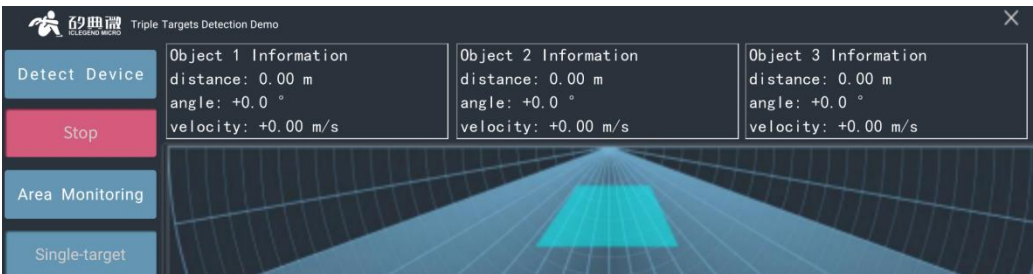
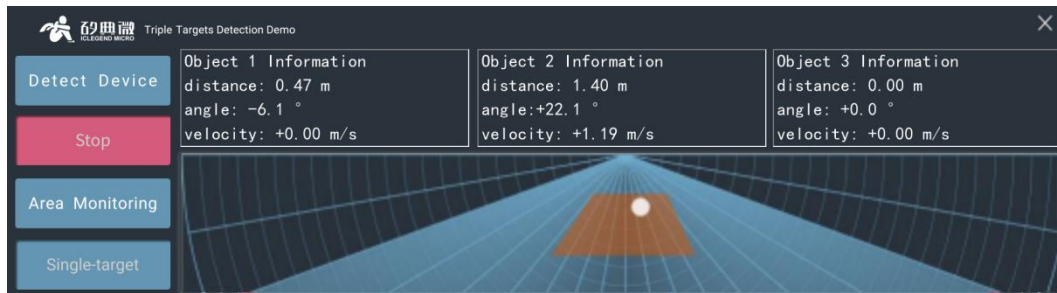

Figure 2.2.6 Defined Monitoring Area
Figure 2.2.7 Target Present in Monitoring Area
Step 3: Click the “Add Monitor Area” button on the “Area Monitoring” settings page to start setting up the monitoring area: On the interface, left-click within the fan-shaped area to set the vertices of the monitoring area, and right-click to finish setting the monitoring area. The host computer tool will connect the vertices in the order of mouse clicks to form a polygon displayed on the interface. The area enclosed by this polygon is the monitoring area. Figure 2.2.6 shows a quadrilateral monitoring area. When someone enters the monitoring area, the background color of the monitoring area changes to “Target Abs. Color”; after the person leaves the detection area, the area color reverts to “Target Pres. Color”, as shown in Figures 2.2.7 and 2.2.8.